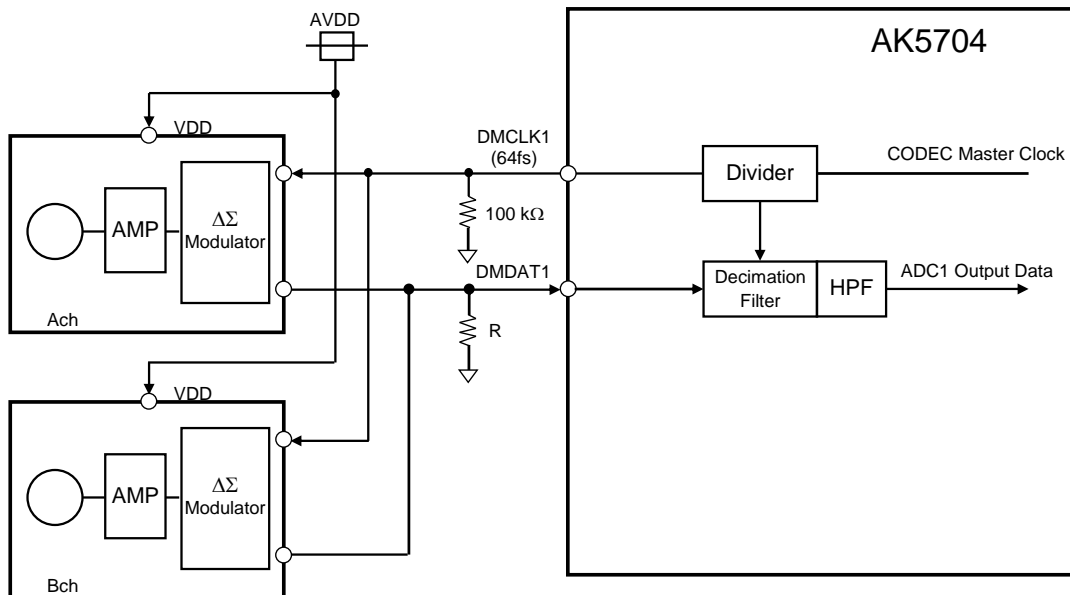
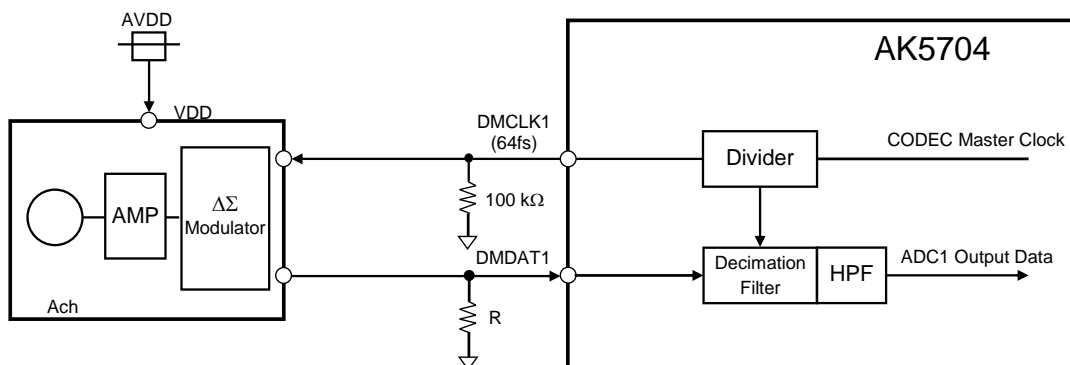

Figure 33. Connection Example of Stereo Digital Microphone (DMIC1 bit = “1”)
Figure 34. Connection Example of Monaural Digital Microphone (DMIC1 bit = “1”)
The same power supply as AVDD must be provided to the digital microphone. The Figure 33 and Figure 34 show stereo/mono connection examples. By dividing the master clock to 64fs with divider, the DMCLK1 (DMCLK2) signal is output from the AK5704, and the digital microphone outputs 1bit data, which is generated by  $\Delta\Sigma$  Modulator, to DMDAT1 (DMDAT2). PMDM1A/B (PMDM2A/B) bits control power up/down of the digital block (Decimation Filter and HPF). PMAD1A/B (PMDM2A/B) bits settings do not affect the digital microphone power management. The DCLKE1 (DCLKE2) bit controls ON/OFF of the output clock from the DMCLK1 (DMCLK2) pin. When the AK5704 is power-up (PDN pin = “H”), external pull-down resistor (R) should be connected to the DMDAT1 (DMDAT2) pin to avoid floating state. Note that when using the digital microphone it does not support quad speed mode ( $f_s \geq 128$  kHz).